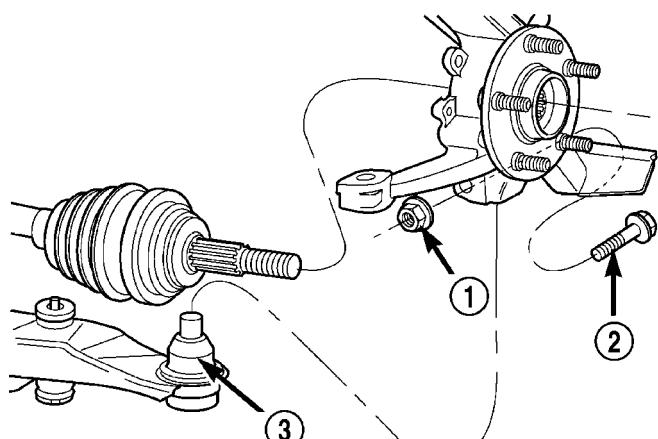

Fig. 25 Halfshaft Installation Into Hub And Knuckle
(5) Slide halfshaft back into front hub. Install steering knuckle onto the ball joint stud (Fig. 25).
(6) Install a **NEW** steering knuckle to ball joint stud bolt and nut (Fig. 25). Tighten the nut and bolt to 95 N·m (70 ft. lbs.).